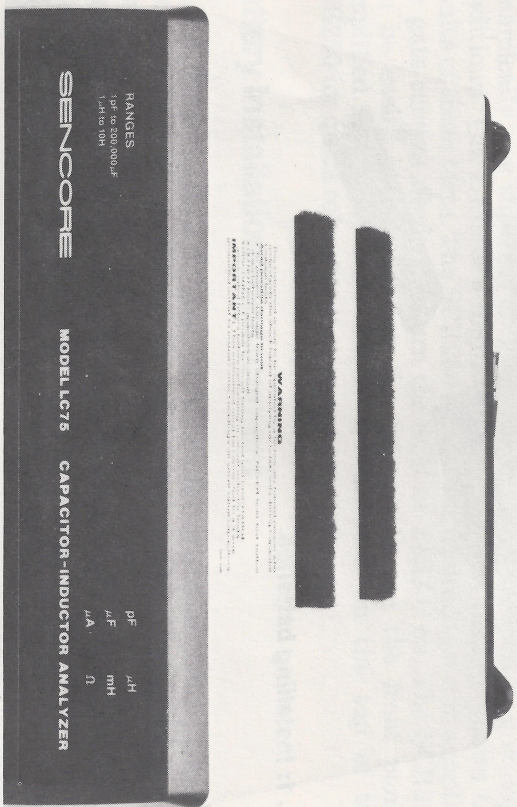

Fig. 2: Velcro® strips installed on the top of a "Z-METER".
2. Remove the protective backing from one of the "loop" type Velcro® strips and mount the strip immediately behind the warning label on the top of the Z-Meter, as shown in Figure 2.